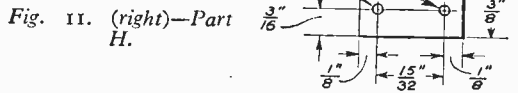

Fig. 11. (right)—Part H.
11. Another small part II must be made before parts G can be assembled. Part H is shown in Fig. 11.